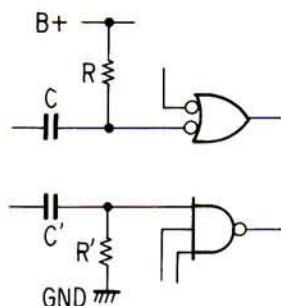

Fig. 1-19
5. The circuit in Fig. 1-19 operates only when the input mode changes from "0" or "1". The gate is operated by the negative edge "1" → "0" in the combination RC, and by the positive edge "0" → "1" in the condition R'C'.